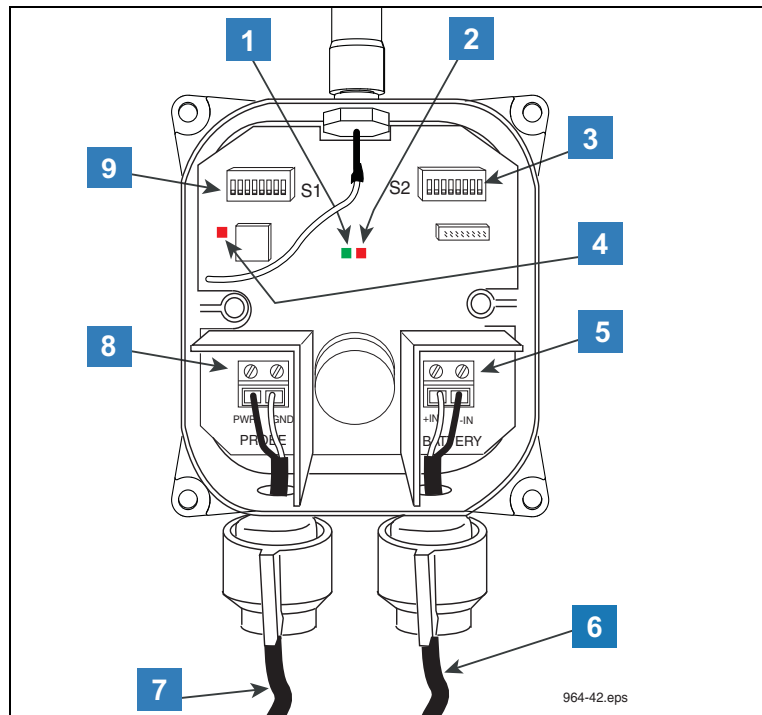

Figure 30. Wiring The Transmitter
5. All probe/sensor cables connect to the PROBE terminal block the SAME WAY - the white wire to the PWR terminal and the black wire to the GND terminal as shown in Figure 30.
8. Connect power cable wires to the BATTERY terminal block placing the white wire in the +IN terminal and the black wire in the -IN terminal as shown in Figure 30.
LEGEND FOR NUMBERED BOXES IN Figure 30